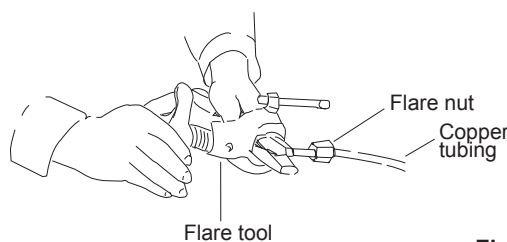

Fig. 2-5-3
- (3) Remove the flare nut from the unit and be sure to mount it on the copper tube.
- (4) Make a flare at the end of copper tube with a flare tool. (Fig. 2-5-3)